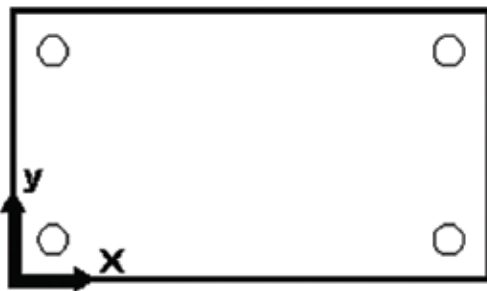

Figure 8.4
- Your drawing should now look like Figure 8.4.